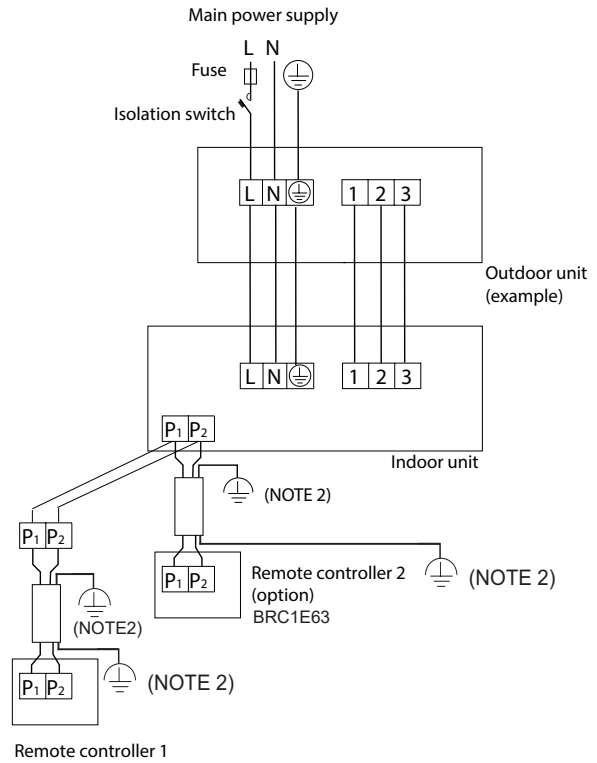

Fig. 18
- 2 remote controller control: 2 remote controller controls 1 indoor unit. (Fig. 18)